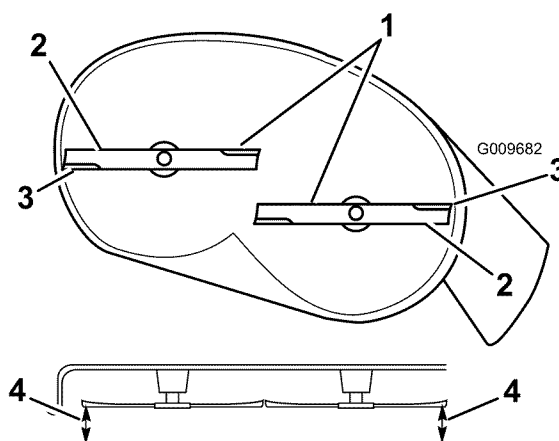
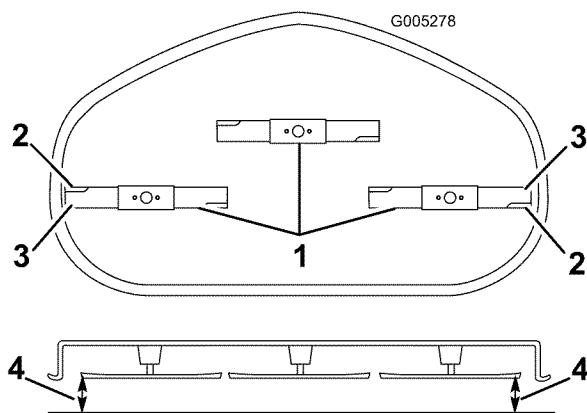

Figure 46
Figure 47
4. Carefully rotate the blades so that they are all side to side (Figure 46 and Figure 47).
- Measure between the outside cutting edges and the flat surface (Figure 46 and Figure 47). If both measurements are not within 3/16 inch (5 mm), an adjustment is required; continue with this procedure.